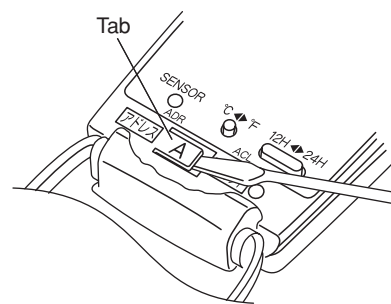
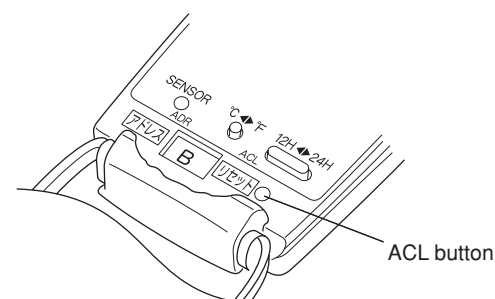

Fig. 62
Fig. 63
- (1) Switch on the power source.
- (2) Break the address-setting tab marked "A" on the second remote controller to change the address (Fig. 62). When the tab is removed, the address is automatically set to B (Fig. 63).
- (3) Press and hold the remote controller ION button and 1 HR TIMER button. At the same time, press the ACL(reset) button. Use a thin object such as the tip of a pen to press the ACL button. When this has been done, "oP-1" (test run) appears, blinking, in the remote controller clock display area.